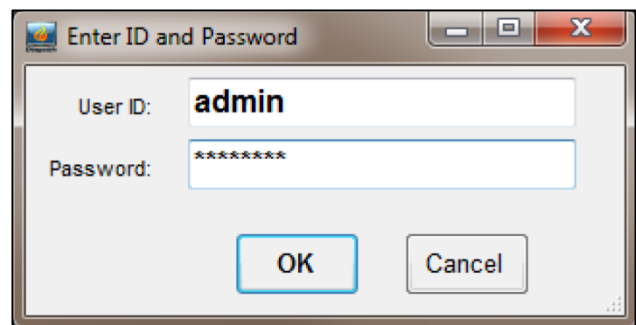

Figure 34. Log in at highest security level.
1. Log in with the highest security level: Level 4 (Figure 34). Default password: despatch